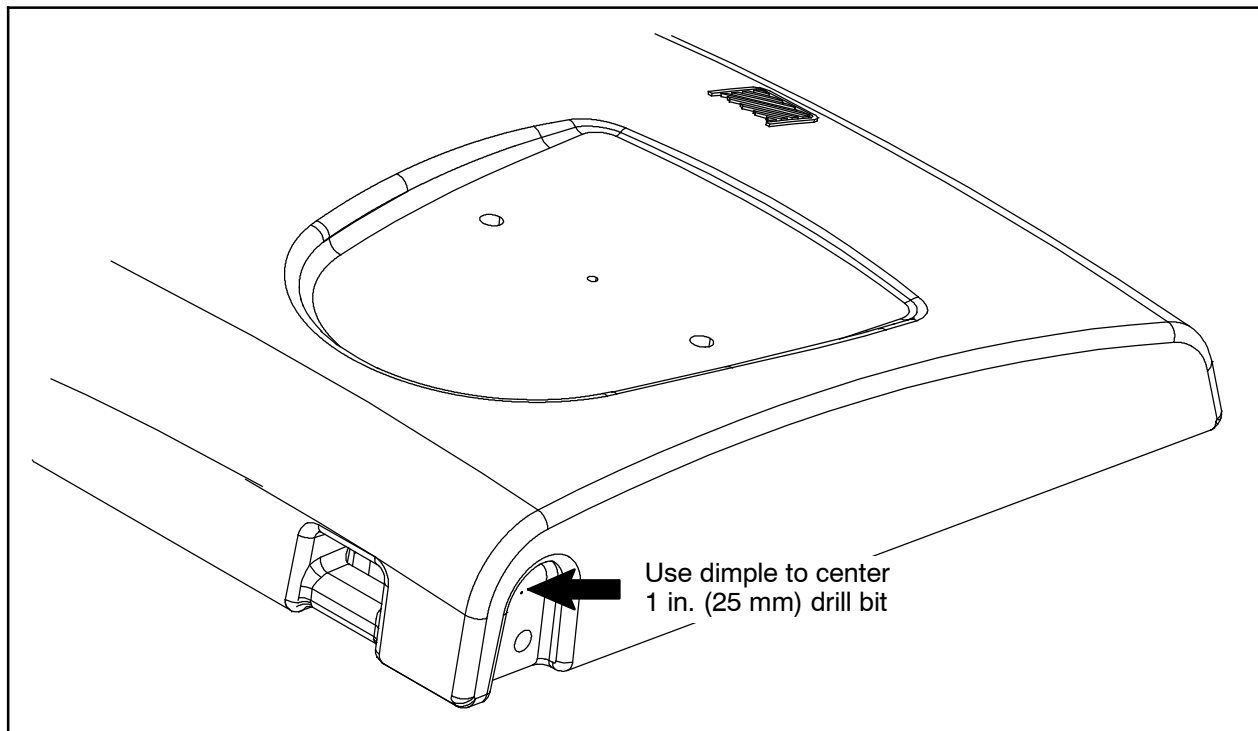

FIG. 12
22. Drill a 1 in. (25 mm) hole through the recovery tank cover. (Fig. 12/Fig. 13)
23. Remove the plugs from the recovery tank cover and discard both plugs. (Fig. 12)